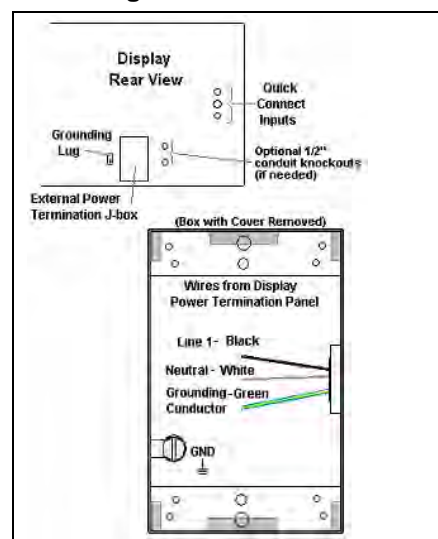

Figure 16: Connections in Power Termination J-box
3. Inside the external power termination J-box, connect the power wires to the wires coming from the display interior using wire nuts. Refer to **Figure 16** for further information.